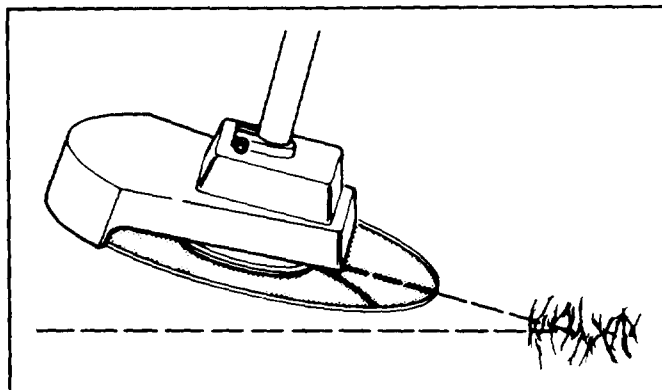

Figure 7
4. Slowly move trimmer in a side-to-side motion into the area being cut, while at the same time, holding the unit at the desired height of cut. Always tip the leading edge of the cutter slightly downward to gain maximum cutting efficiency (Fig. 7).